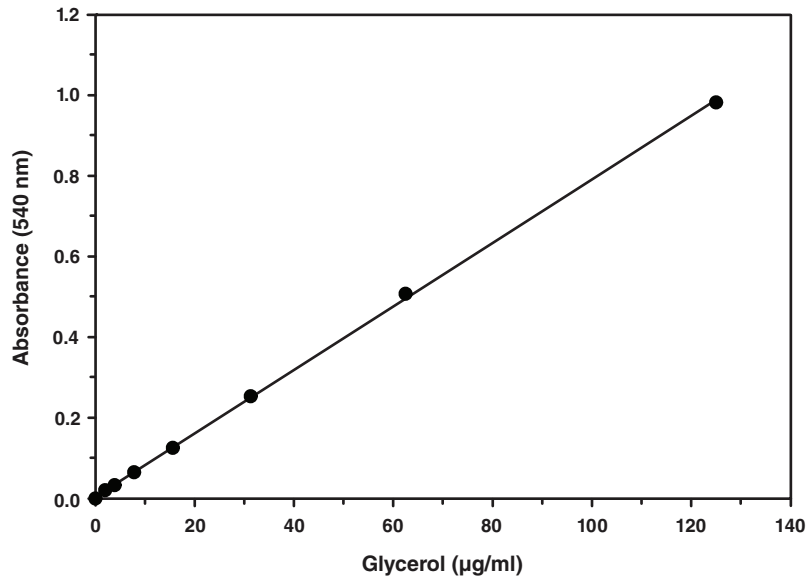

Figure 2. Typical glycerol standard curve
4. Graph the corrected absorbance values of each standard as a function of the final glycerol concentration. See Figure 2, on page 10, for a typical standard curve.